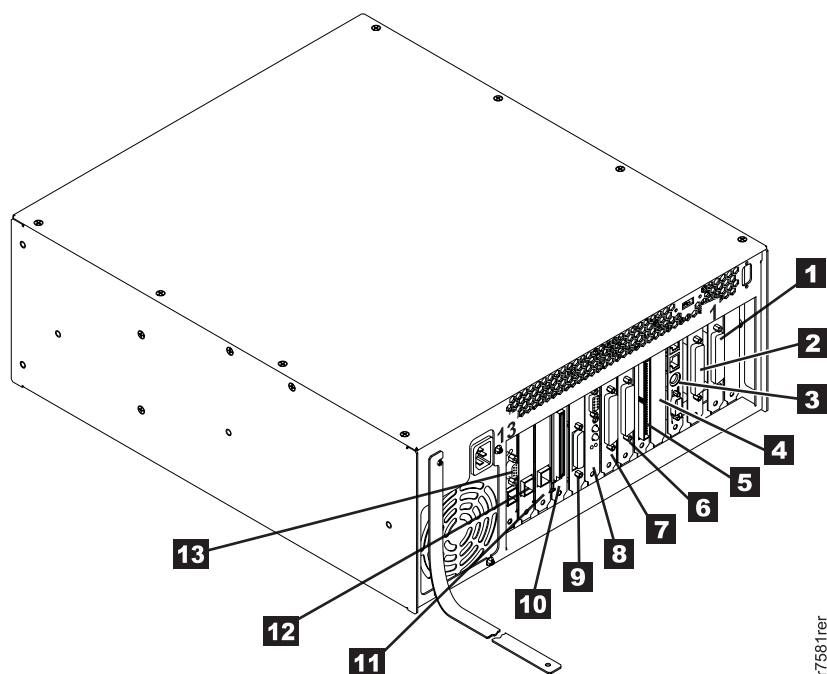

Figure 3. Model 7581 Industrial Computer System Unit
- ___ 7. Using the *Installing Adapters* instructions from the **7581 Installation, Operation, Hardware Maintenance** manual, install the second ARTIC adapter into slot 7. (**7** within Figure 3 on page 12).